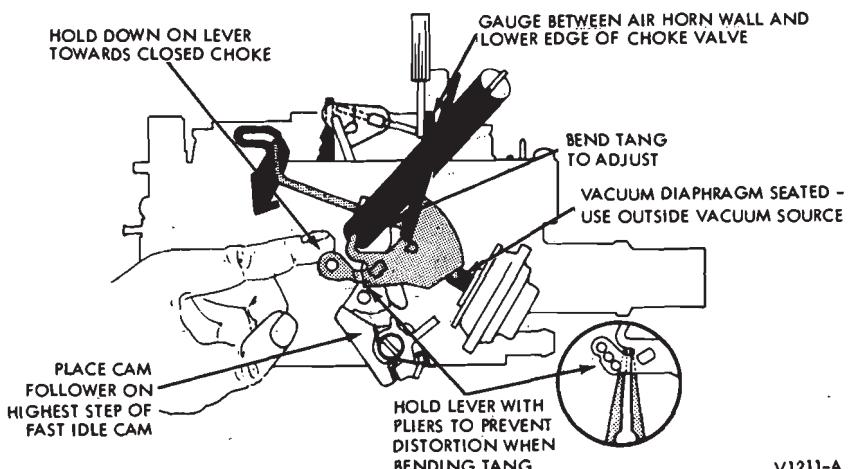

FIG. 6—Vacuum Break Adjustment
1. Seat the vacuum break diaphragm using an outside vacuum source (Fig. 6).